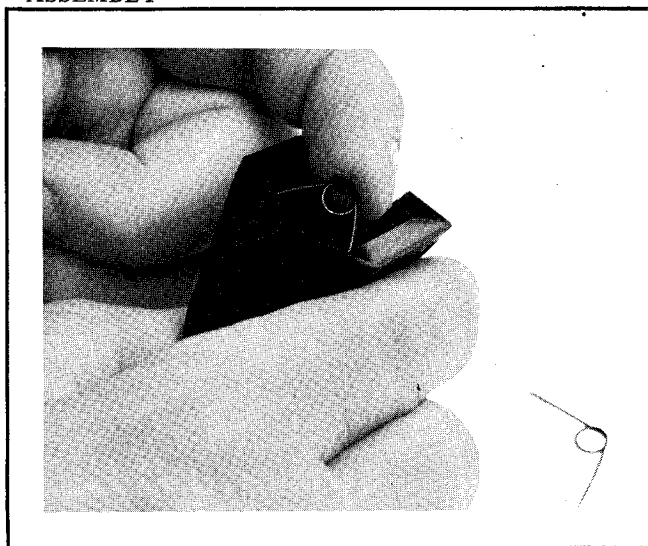

Figure 2
4. Squeeze the spring tips and insert it as shown in Figure 2.